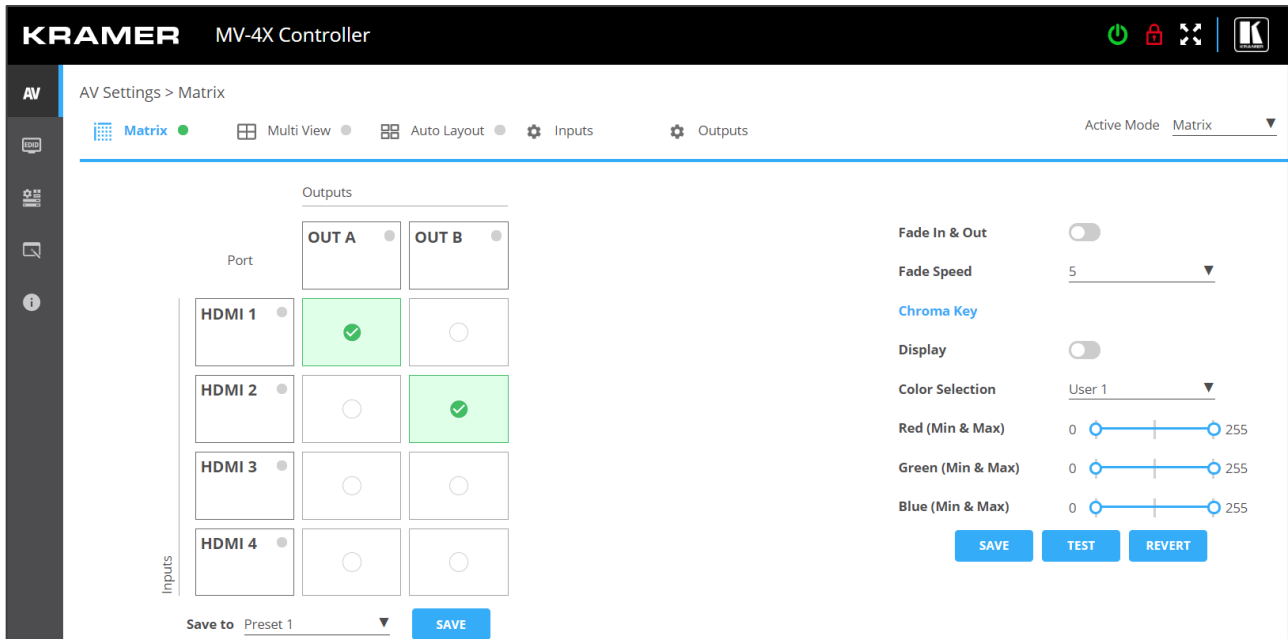

Figure 11: AV Settings Page
1. Click **AV** on the Navigation List. The AV Settings page appears (see Figure 11).